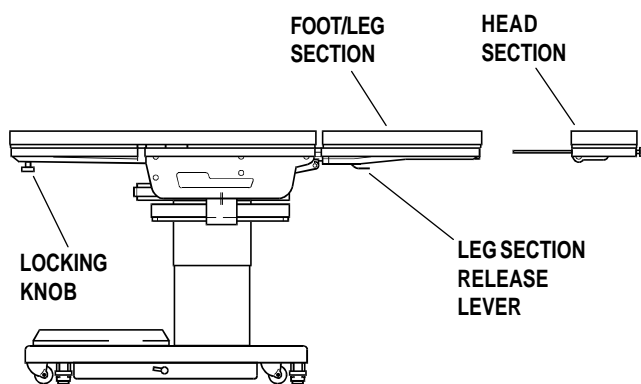

Figure 2-15. Repositioning Head Section
b. By loosening two locking knobs beneath the back section, an additional 5" of longitudinal adjustment can be achieved. If desired, the head section may be removed by loosening the locking knobs and pulling it straight out of the back section. 3500 Series Tables have the capability of attaching the head section to the leg section for use as a foot extension. Two locking knobs are located on the inside of the leg section for securing the head section. See figure 2-15.